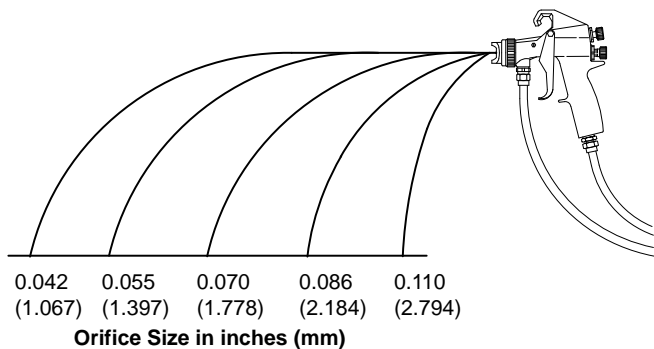

Fig. 10 _____ 02105
- J. If after increasing the gun air supply pressure the atomization is still unacceptable, try installing a larger fluid nozzle size to reduce the fluid velocity. Refer to Fig. 10. Repeat steps 6-E to 6-I until you obtain the desired atomization.